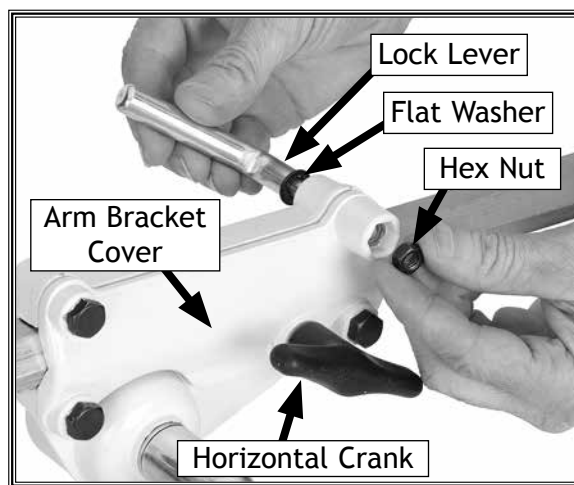

Figure 30. Assembling arm bracket.
10. Secure the arm bracket cover onto the arm bracket with three M10-1.5 x 35 hex bolts and washers (see **Figure 30**).
12. Insert the lock lever, flat washer, and hex nut, as shown in **Figure 30**.